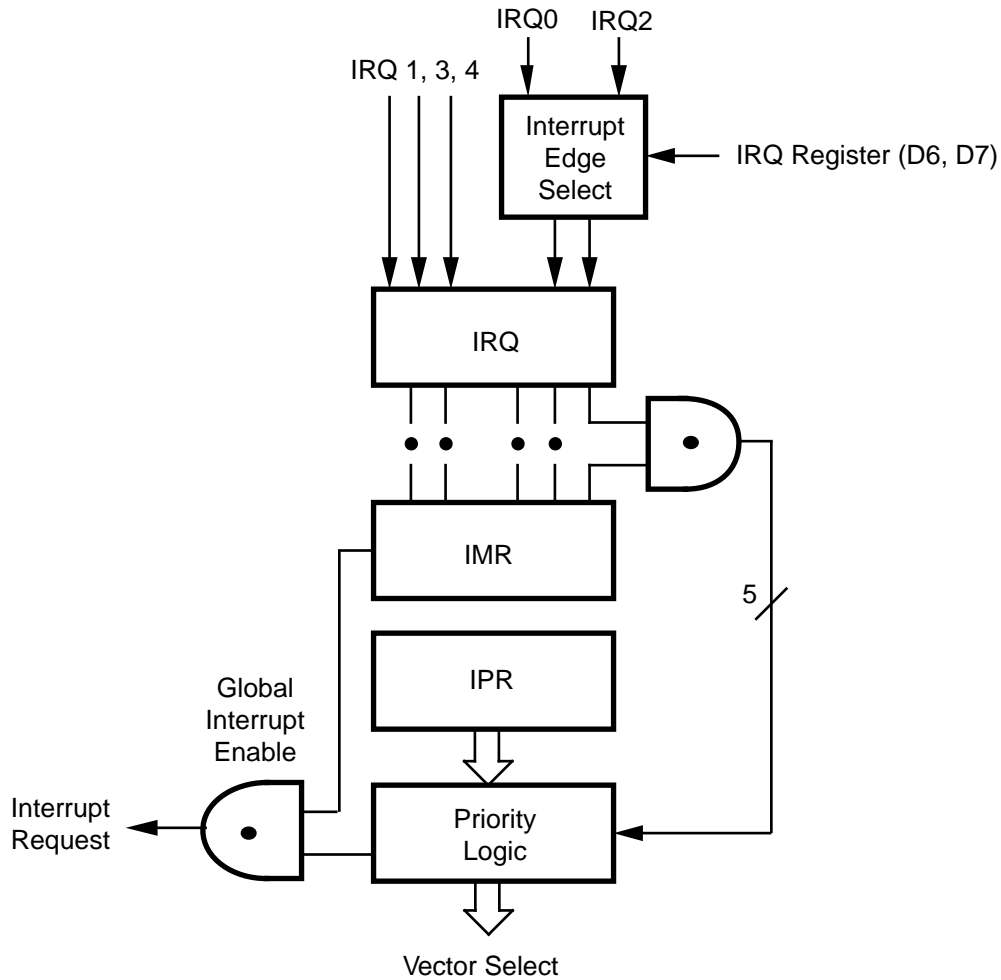

Figure 36. Interrupt Block Diagram
**Interrupts.** The Z86LXX has five different interrupts. The interrupts are maskable and prioritized (Figure 36). The five sources are divided as follows: three sources are claimed by Port 3 lines P33-P31, the remaining two by the
**Stop-Mode Recovery Edge Select (D6).** A 1 in this bit position indicates that a High level on any one of the recovery sources wakes the Z86LXX from STOP mode. A 0 indicates Low level recovery. The default is 0 on POR (Figure 36).